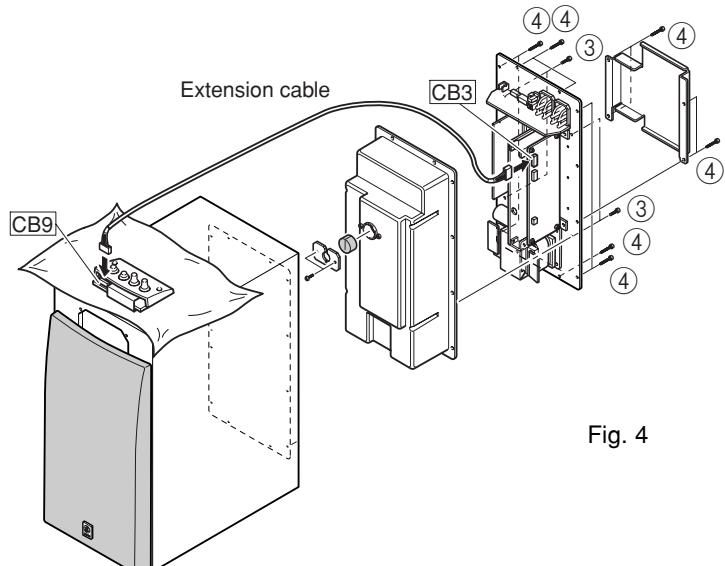

Fig. 4
Remove 4 screws (③) and 12 screws (④) in Fig. 4, and remove the rear panel. At this time, disconnect the connector CB3 of MAIN (2) P.C.B.
- Disconnect the connector CB9 of MAIN (5) P.C.B.
- Connect the connector CB3 of MAIN (2) P.C.B. and CB9 of MAIN (5) P.C.B. by using an extension cable. (Fig. 4)